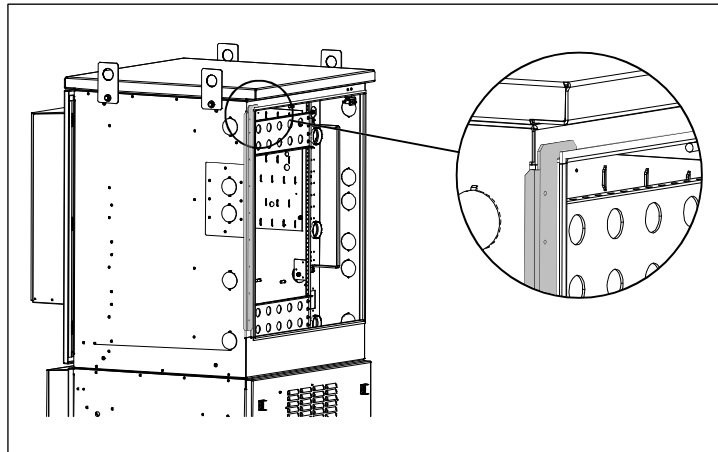

Figure 8 Place Drilling Template
1. Place the drilling template so that the template flange fits snugly around the corner of the CUBE. Place the short arm around the door frame, flat against the CUBE (Figure 8, template is shaded in gray).